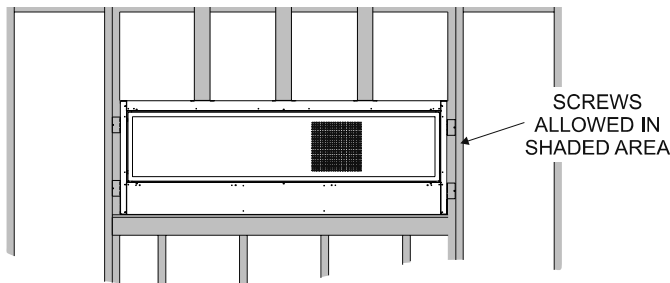

Figure 48
- Screws are allowed in framing and top mounting brackets. No screws are allowed into the fireplace face. **See Figure 48.**